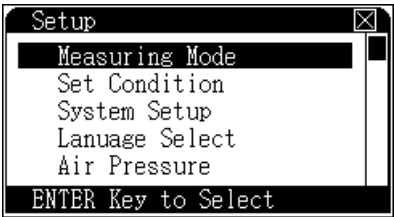

Figure 12 The setup menu
- 1 From the initial state, press [**Setup**]. The setup screen appears. See Figure 12.
- 1 From the initial state, press [**Setup**]. The setup screen appears. See Figure 12 on page 26.